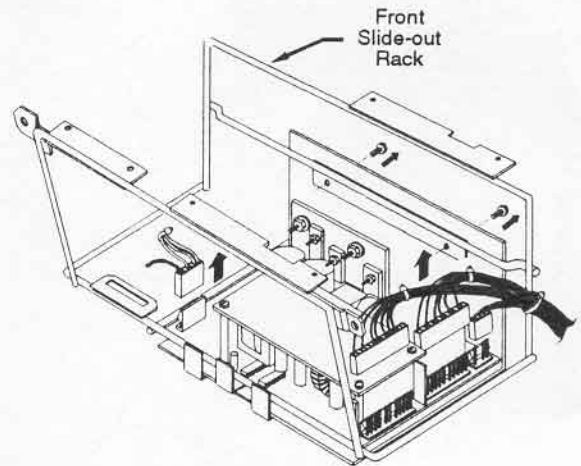

Figure 5-18. LVPS Removal
- e) Disconnect the P1, P2, P3, P4 connections from the module. See Figure 5-18.